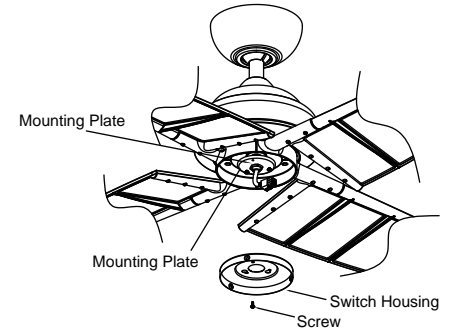

Fig. 17
Step 1. Remove one of the mounting screws preinstalled on mounting plate and keep for later use. Loosen the other two (do not remove). Place the two slot holes on the switch housing over the 2 screws previously loosened from the mounting plate. Rotate the switch housing until it locks in place at the narrow end of the key holes. Secure by tightening the 2 screws previously loosened and the one previously removed. (Fig. 17)